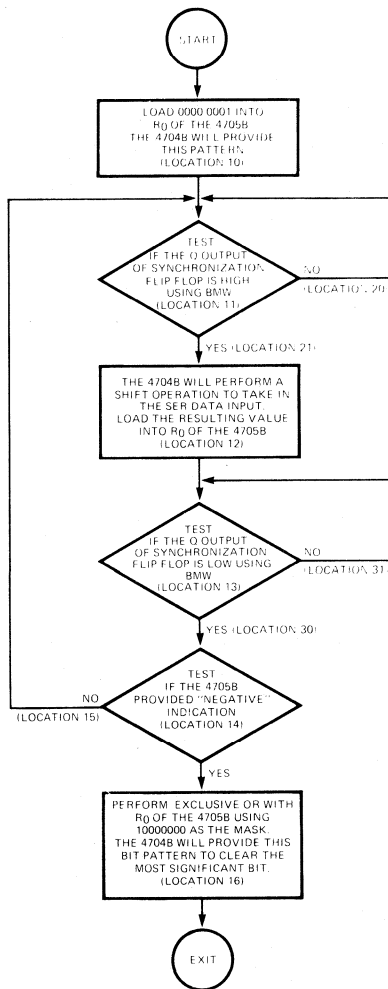

Fig. 9. Sequence of Operation
The flow chart in *Figure 9* shows the sequence of operations assuming the sequence is a subroutine starting at location (10)g in the control store. The program for implementing this flow chart is shown in *Table 1*. Note that register R₀, the first of the eight general purpose registers of the 4705B, is used for the serial-to-parallel conversion. Thus bit 4 through bit 6 (address bits of the 4705B field) are L L L. To indicate that a load operation into R₀ is desired, bit 7 through bit 9 (4705B instruction field) are L H H.